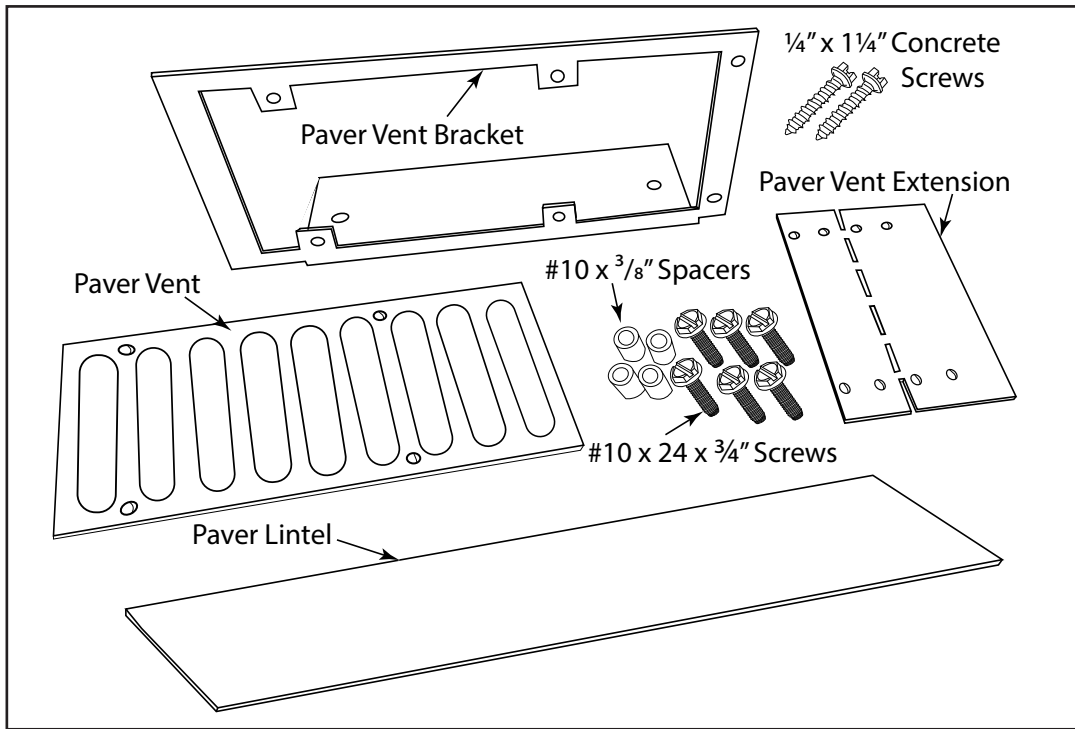

**Fig. 6** Vent assembly to vent bracket (top view)
**STEP 5:** Install the bracket extension (if needed) with two black hex screws behind the lip of the vent bracket, then secure the vent to the vent bracket using the spacers and screws with this kit (See Fig. 6). The use of the spacers is imperative because without them 18 square inches of ventilation per vent will not be obtained (See Fig. 7).